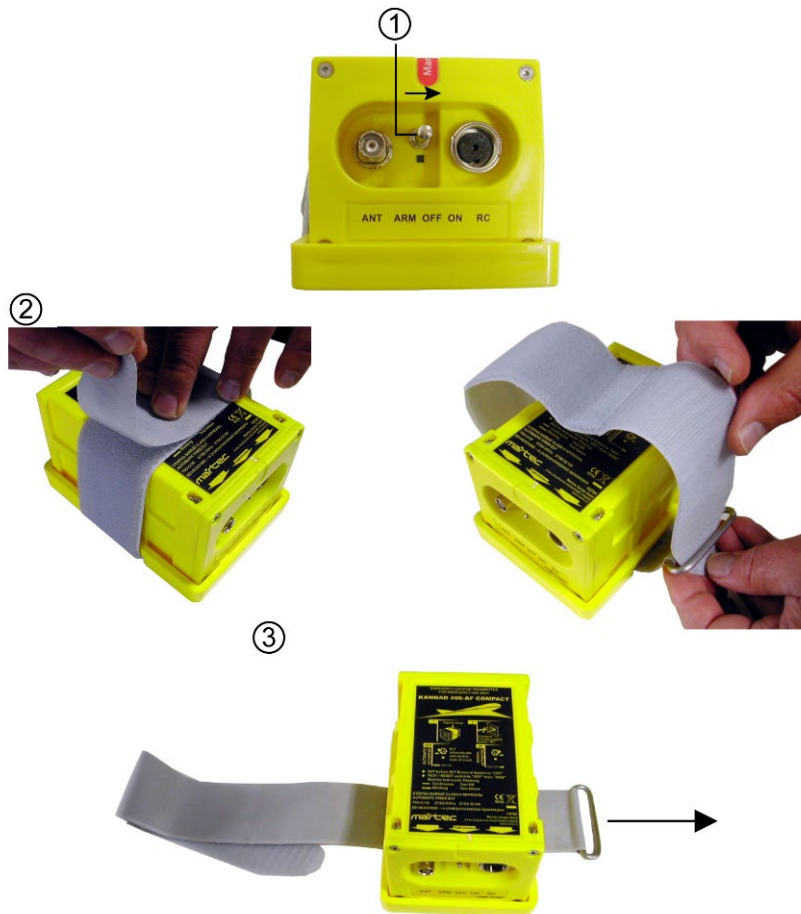

Figure 1: Self-stripping Strap Removal
1. Switch the ELT to "OFF" to avoid potential false alert - refer to Figure 1.